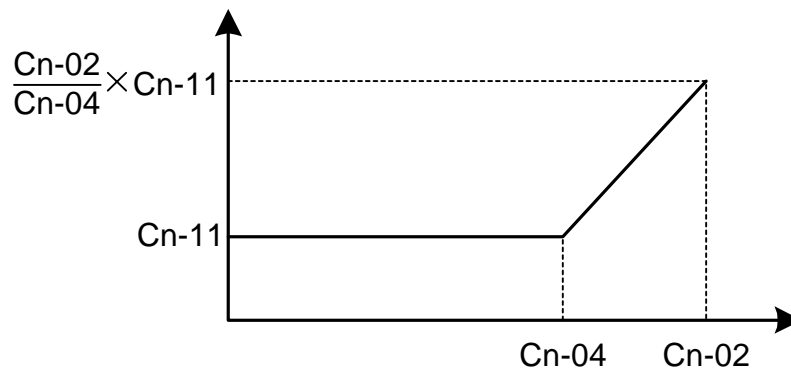

Fig. 19. Slip compensation limit
- The setting is shown in Fig. 19 in the constant torque and constant output range. If setting Cn-11 is zero, no slip compensation is used.